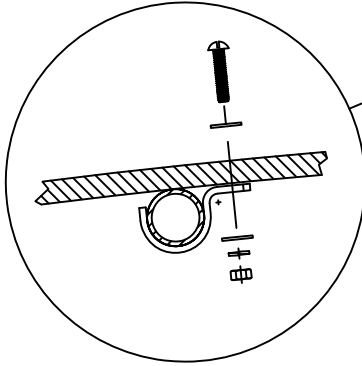
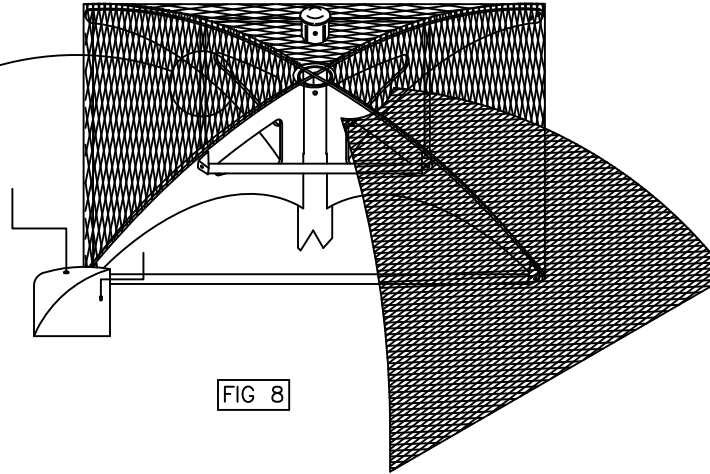

FIG 7
FIG 8
STEP 7: Carefully lay each roof panel (J-), running clockwise, on the roof support structure. Pull each panel towards the center and ensure all panels are symmetrical and strip on the right side of panel overlaps adjacent panels. Temporarily secure each panel to the support tubes using 14" nylon cable ties, using one per each end. Bolt hold down brackets (I3) to under-side of roof panels, onto support tubes (I2) four places, using one (O), two (P), one (T) and one (Q) per each (O). (SEE FIG 7). Bolt roof corner caps (D2) to the roof panels using one (U), two (P), one (Q) and one (T) per each (U), per each hole. Place the upright tube ensuring to cover the top edge of all the roof panels, and bolt in place using one hex head cap (D1) into the bolt (V) per each hole. (See Fig 8). NOTE: Remove nylon cable ties once panels are secure.